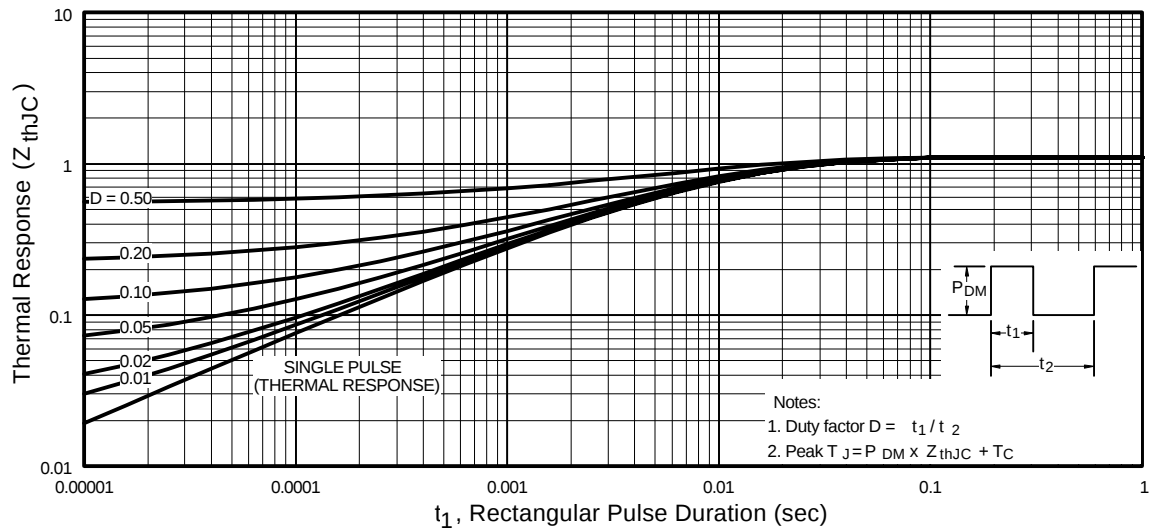

Fig 11. Maximum Effective Transient Thermal Impedance, Junction-to-Case
① Repetitive rating; pulse width limited by max. junction temperature. (See fig. 11)
④ Pulse width ≤ 300μs; duty cycle ≤ 2%.
② Starting T_J = 25°C, L = 1.9mH